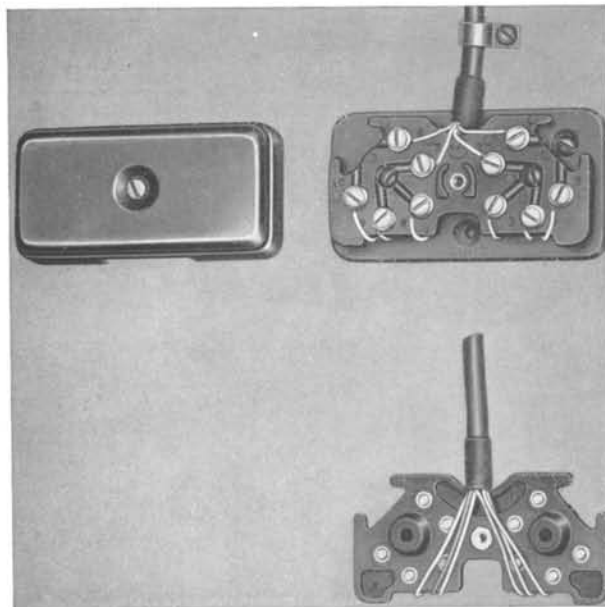

FIG. 8—1044A CONNECTING BLOCK WITH 168A BACKBOARD
6.04 The 44- and 1044-type connecting blocks are shown in Figs. 8 and 9. They are installed as follows: